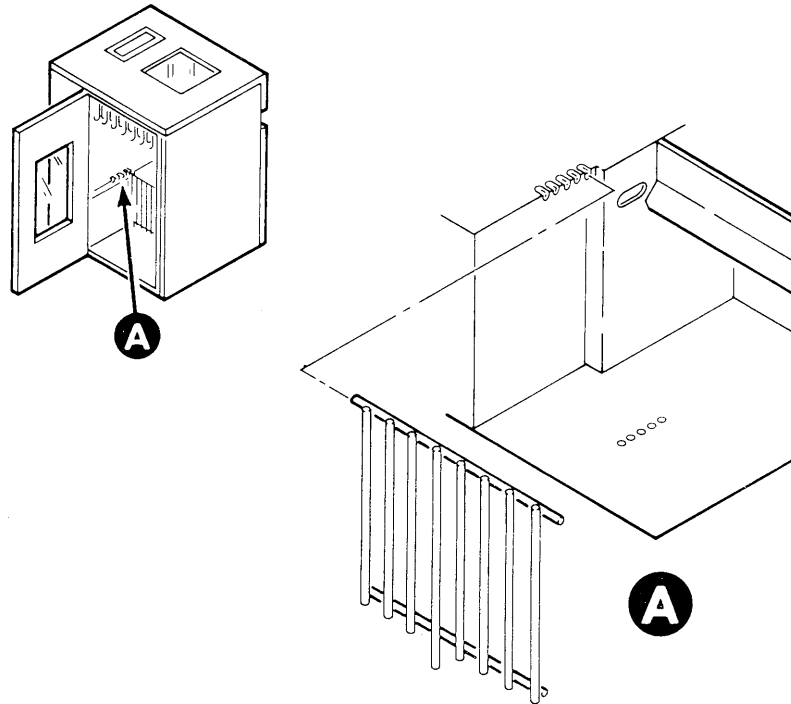

Figure 2–4. Front Paper Fence Installation
2. Install the front paper fence in the bracket as close as possible to the paper in the stacking area with the paper close to the rear door (Figure 2–4). The bracket is located in the upper portion of the printer paper stacking area near the outer edges. The fence must be installed in the same bracket position on each side to maintain a vertical orientation.
3. Install the paper stacking tent into the paper stacking area with the far edge of the tent against the front paper fence (Figure 2–5).
5. Advance the paper until a few sheets begin to stack on the tent (Figure 2–6).
To replace the ribbon, perform the following steps and refer to Figure 2–7.